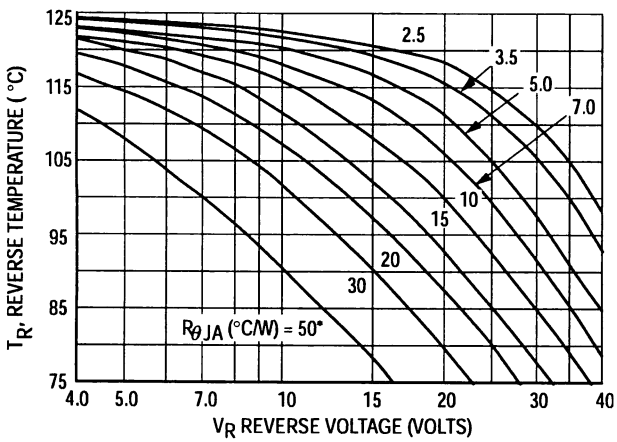

Figure 3. Maximum Reference Temperature – 1N5828
Step 2. Find T_R from Figure 3. Read T_R = 121°C